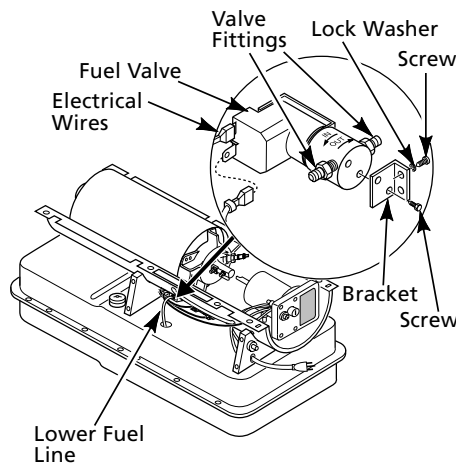

Figure 12 - Fuel Valve Replacement
3. Pull lower fuel line off the fuel valve fitting (See Figure 12).
4. Disconnect red and white wires from fuel valve (See Figure 12).
5. Using 1/4" nut driver remove 2 screws/lockwashers holding fuel valve and bracket to lower shell (See Figure 12). Save these screws/lock washers.